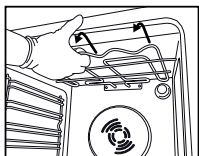
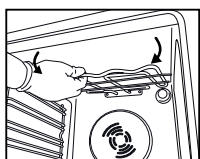

Fig.4
Fig.5
2. Pull the heating element out a little (Fig. 4) and lower it (Fig. 5).